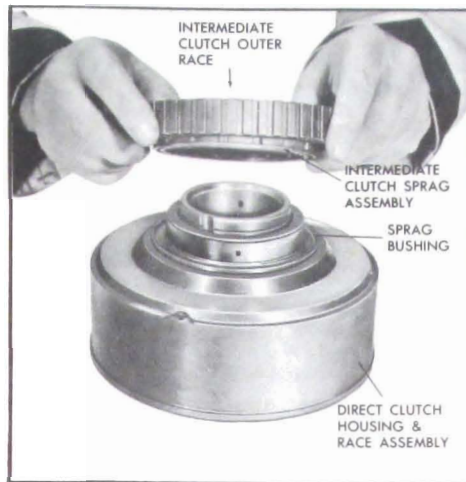

Figure 5-654
13. With ridge on inner cage facing down start sprag and outer race over inner race with clockwise turning motion. See Figure 5-654.